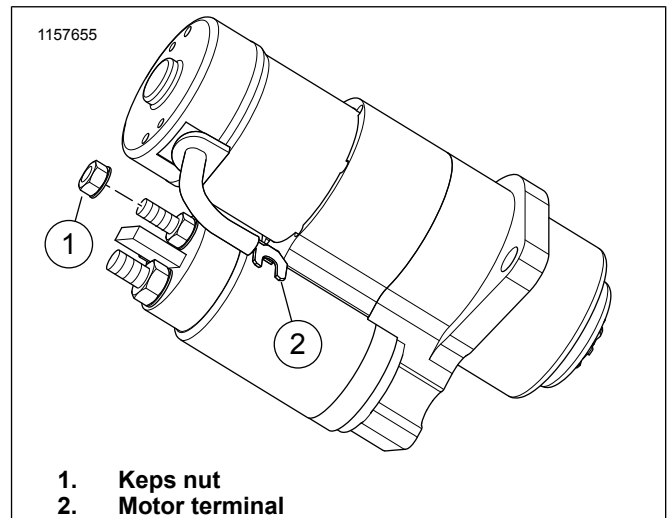

Figure 1. Keps Nut
2. Figure 1 Remove keps nut (1) and motor terminal (2).
Verify that motor terminal wire is in the notch closest to the solenoid. Figure 1
25. Figure 1 Install motor terminal and keps nut. Tighten.